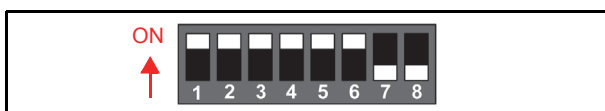

Figure 2-16 Encryption Mode DIP Switch Settings
2. Set DIP Switch No.1 through No.6 to **ON**, and Switches No.7 and No.8 to **OFF** (See Figure 2-16).